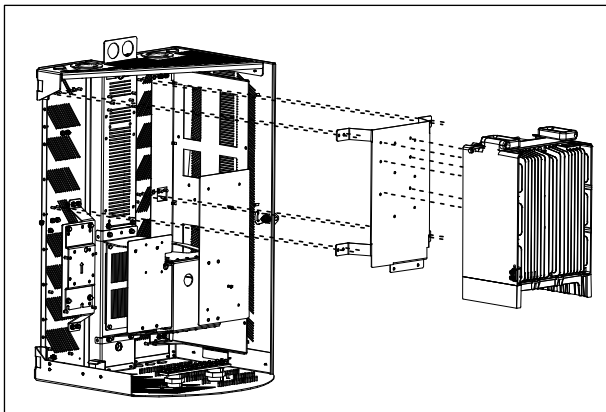

Figure 5 Install 160W Radio
2. Mount the radio/bracket assembly to the SHRD60 rear panel using eight Keps nuts (Figure 5).